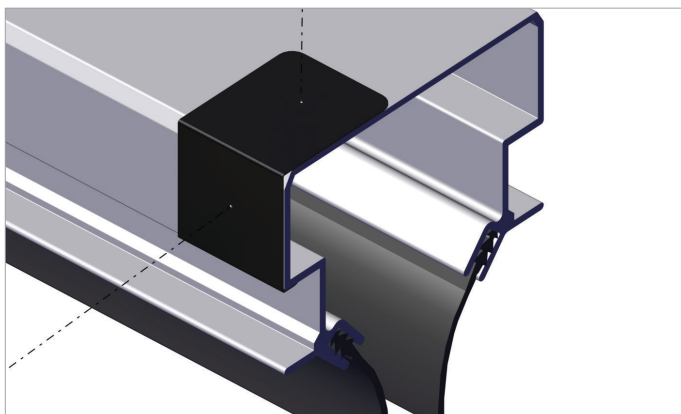

Fig. 6.3.1 Drill template on VSRX
- With the use of the drill template drill a 9 mm hole on each side of the rail and two on the top of the rail. Refer to fig. 6.3.1.